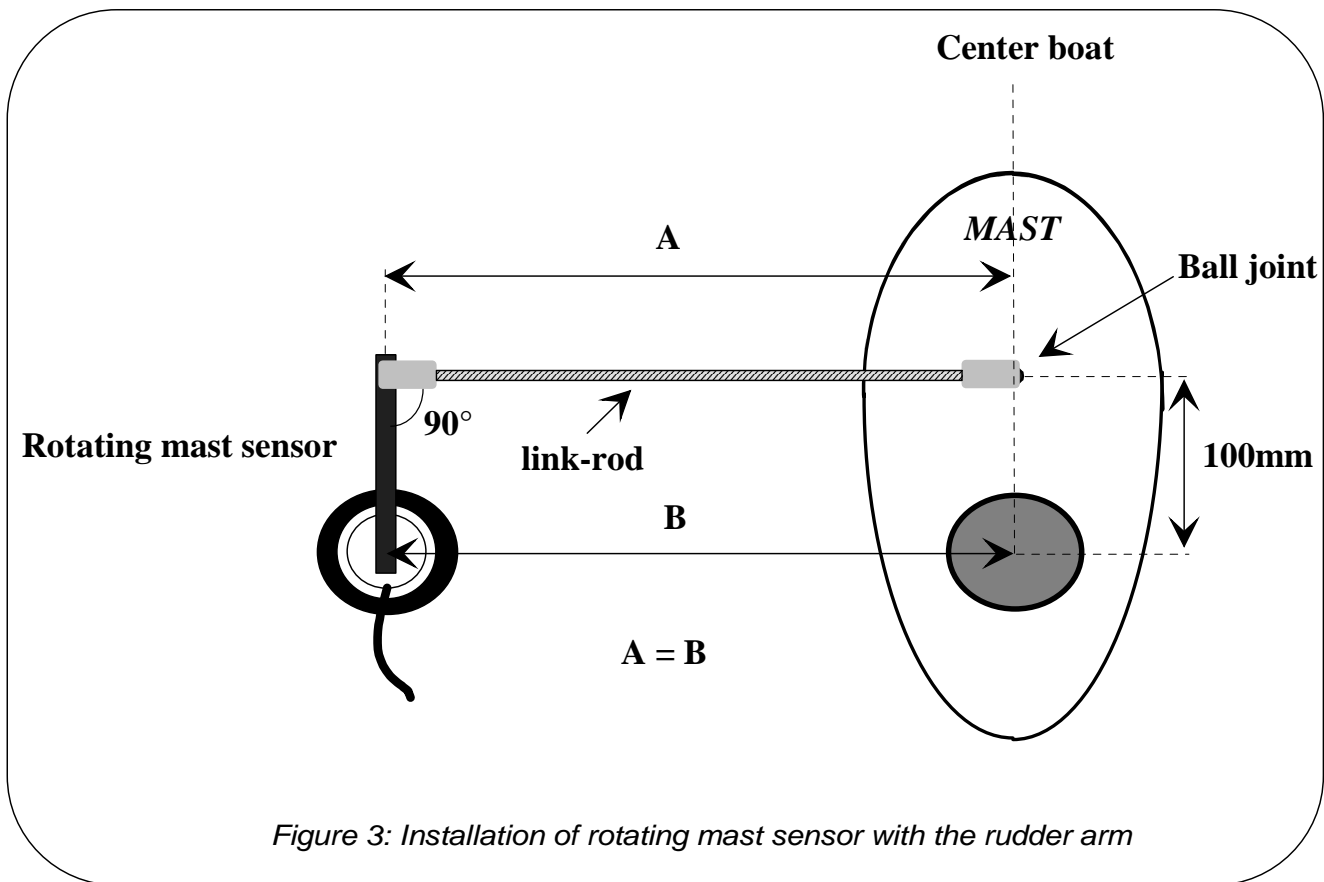

Figure 3: Installation of rotating mast sensor with the rudder arm
The « mast rotation sensor » can be mounted either with the sheave (see figure 2) or with the rudder arm supplied (see figure 3).
- Place the sensor as shown in Figure 3. Securely fasten with four screws ( $\varnothing$  4mm). Measure **A**.